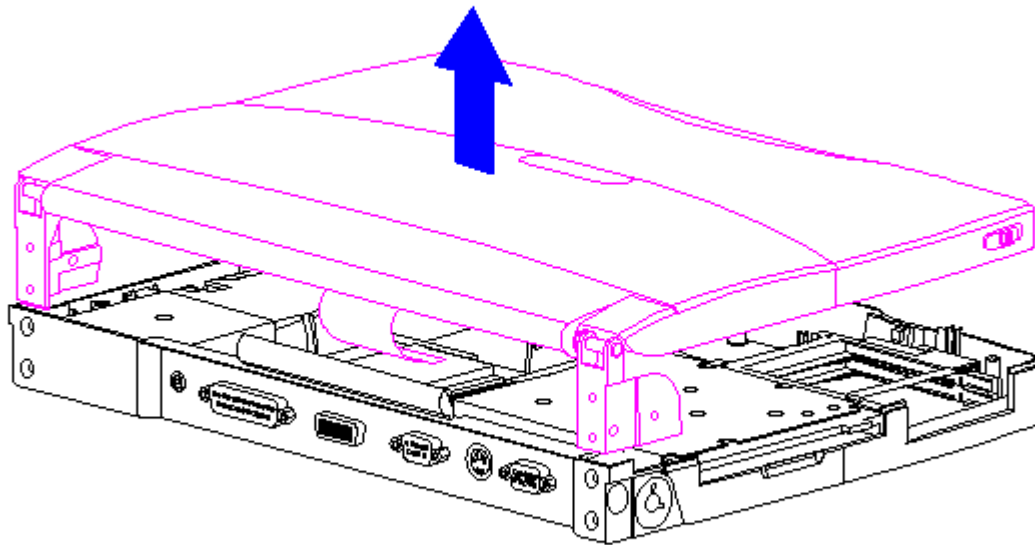

Figure 3-189. Removing the Display Assembly from the System Unit Module (All Models)
10. Lift the display assembly off the system unit module (Figure 3-189).